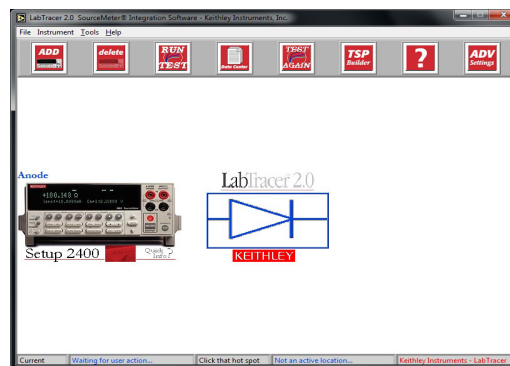

Figure 1. LabTracer main window with single SMU.
- Run the Keithley software for controlling the SMUs. (Start -> All Programs -> Keithley Instruments -> Labtracer 2.0.) A window should appear as shown below in Figure 1. If you have two SMUs on the screen, you will need to click the “delete” button to remove one.